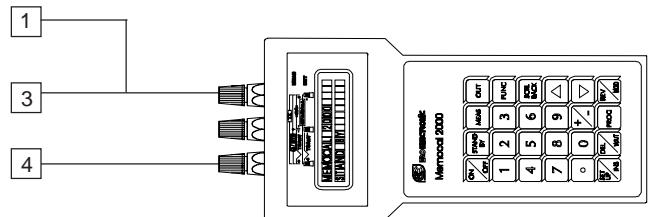

Fig.9
- a) Connect the instrument under test to the calibrator as shown in Fig. 9.